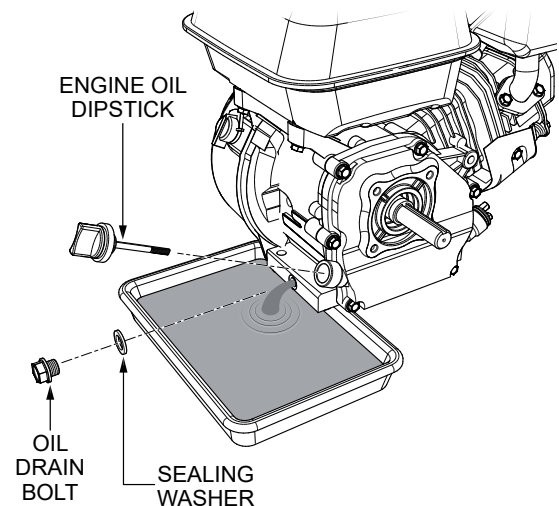

Figure 26. Draining Engine Oil
2. Drain the engine oil when the oil is warm as shown in Figure 26.